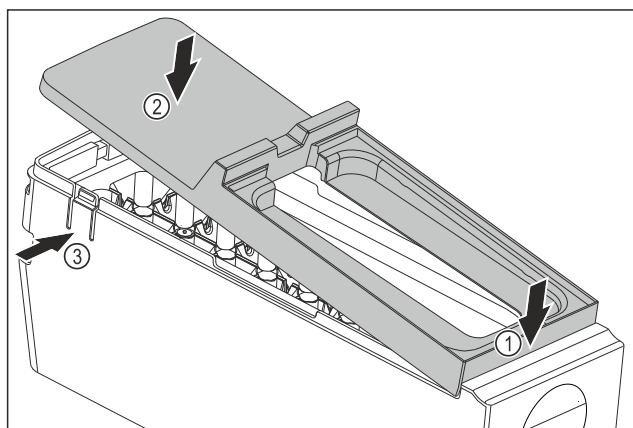

Fig. 91
- ▶ Installing the EasyTwist-Ice body cover: Place the cover on the front. Fig. 91 (1)
- ▶ Lower the cover at the rear. Fig. 91 (2)
- ▷ The cover locks into both tabs Fig. 91 (3) audibly.